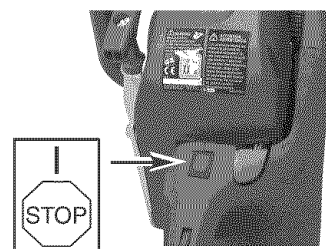

Fig. 4
4. Press red STOP switch to the "I" ON position (Fig. 4).